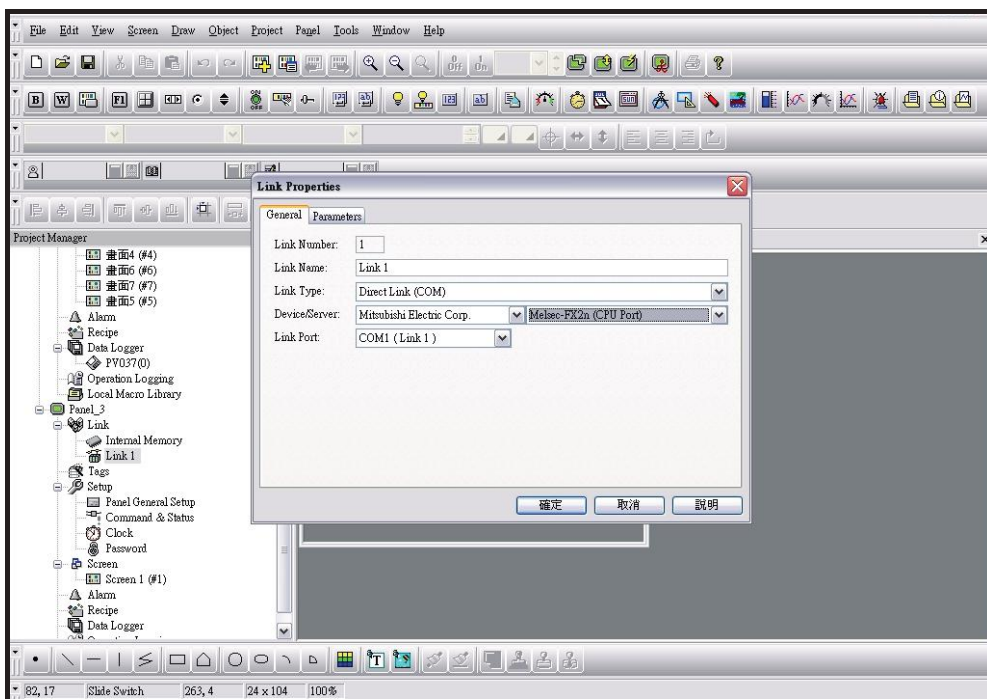

Figure 2-94 New project_step 3_Setting the controller the panel will link to
Step 3 : Click next to get a controller device settings dialogue box as shown in figure 2-94.